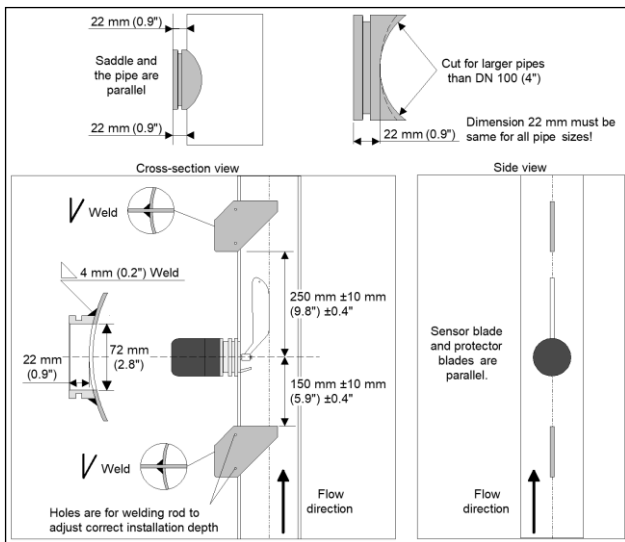

Figure 2. Mounting of the saddle and protector blades.
- Check that height of the saddle is 22 mm (0.9") for standard blade (fig. 2). Others blades are using 42 mm (1.7").
- Check that the saddle is welded exactly parallel to process pipe (fig. 2).
- Check that the protector blades are welded before and after the sensor unit (fig. 2).
- Check that the protector blades and the sensor are parallel (fig. 2).
- Check that the sensor blade points to the downstream of the flow (See the label on the sensor) (fig. 2 & 3).